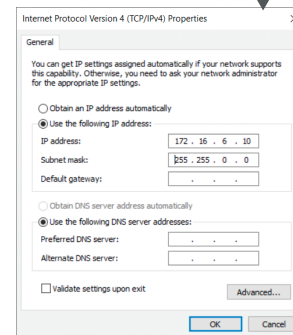

Fig. 9
4. On IPv4 properties screen, select **Use the following IP Address** option (Fig. 9).
5. Enter the following IP address: 172.16.6.xxx (any number). As you can see in above image (Fig. 9), the first 3 number sets (172.16.6) in IP Address field need to be the same as the Junction Box IP address. You can only change the last number set with any number from 1 to 254. Click in the Subnet Mask area, which should auto-complete. Click OK (Fig. 9).